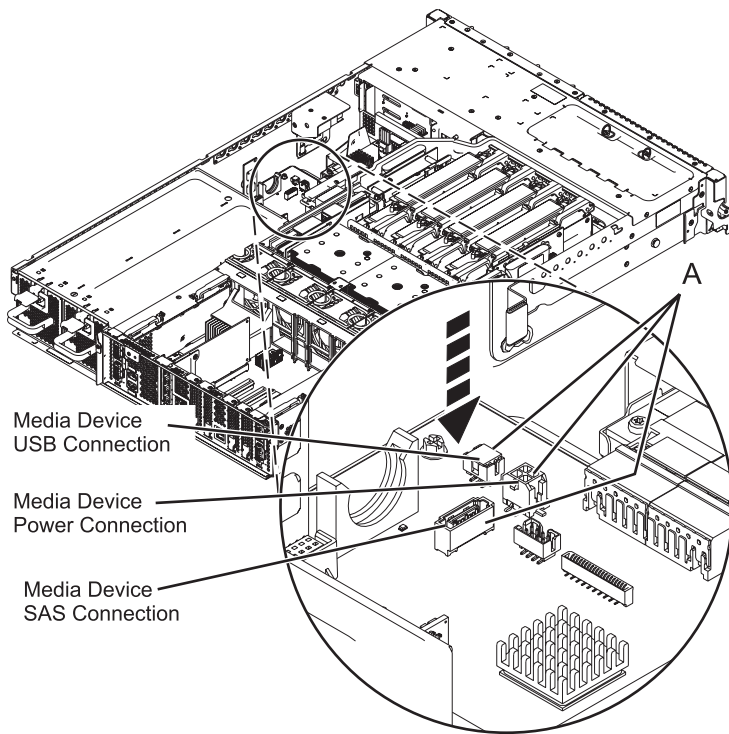

Figure 59. Connecting the media device cables
- a. Connect the media device cables. Connect the media device cables, if present, by firmly pressing the cable connectors into the cable receptacles (A). See Figure 59 on page 68.